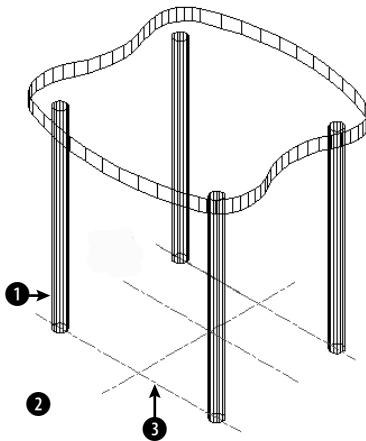

Figure 21-18: Part of a 3D chair.
11. To see the result, type **hide** ↵. Remember that the polyline has no top or bottom surface. Imagine your model as a glass-bottomed chair. It should look like Figure 21-18.
12. Choose Tools ⇨ Inquiry ⇨ List. Select the front-left leg at ❶ in Figure 21-18. Press Enter. The center (of the circle at the bottom of the leg) is X = 3.5000; Y = -7.0000; Z = 0.0000.
15. Choose Tools ⇨ New UCS ⇨ View. The UCS is now parallel to your current view. Choose Draw ⇨ Text ⇨ Single Line Text. Start the text at ❷ in Figure 21-18. Set the height to 1.0 and the rotation to 0. Type **A glass-bottomed chair**. Press Enter twice to end the command.
16. Choose Tools ⇨ New UCS ⇨ Object. Pick the line at ❸. Choose Tools ⇨ New UCS ⇨ Origin. Type **0,0,17** as the origin to place the UCS at the top of the seat.